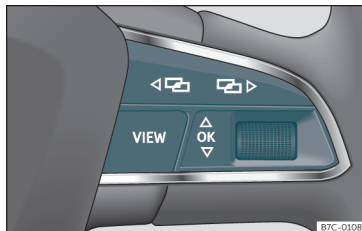

Fig. 105 Right side of multifunction steering wheel: buttons to the menus and informative indications on the instrument panel.
As long as a priority 1 >>> page 102 warning is active, it will not be possible to access any menu. Some warnings can be confirmed and hidden with the button **OK** of the multifunction steering wheel >>> **Fig. 105**.
- If a message or vehicle symbol is displayed, press the button **OK** >>> **Fig. 105**; if necessary, several times.
- To change menus, use buttons **<** or **>** >>> **Fig. 105**.
- To open the menu or the information displayed, press the button **OK** >>> **Fig. 105** or wait a few seconds until the menu or the informative display opens automatically.
- In the menu displayed, turn the right thumbwheel of the multifunction steering wheel >>> **Fig. 105** until the desired option of the menu is highlighted. The option appears framed.
- Press the button **OK** >>> **Fig. 105** to make the required modifications. A mark indicates that the system or function is activated.
Press the button **<** or **>** >>> **Fig. 105**.